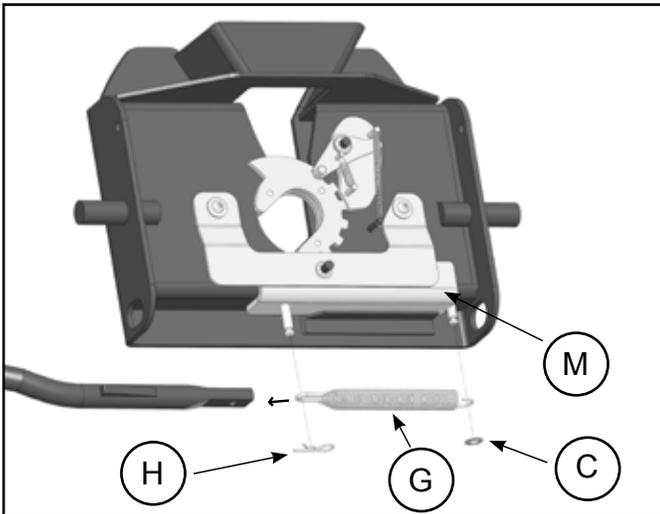

Figure 1
1. Check the lock kit parts that were sent to you. To report any shortages, please call PullRite at (800) 443-2307.
5. Remove the release handle and lock bar spring completely, and set aside (Figure 1).